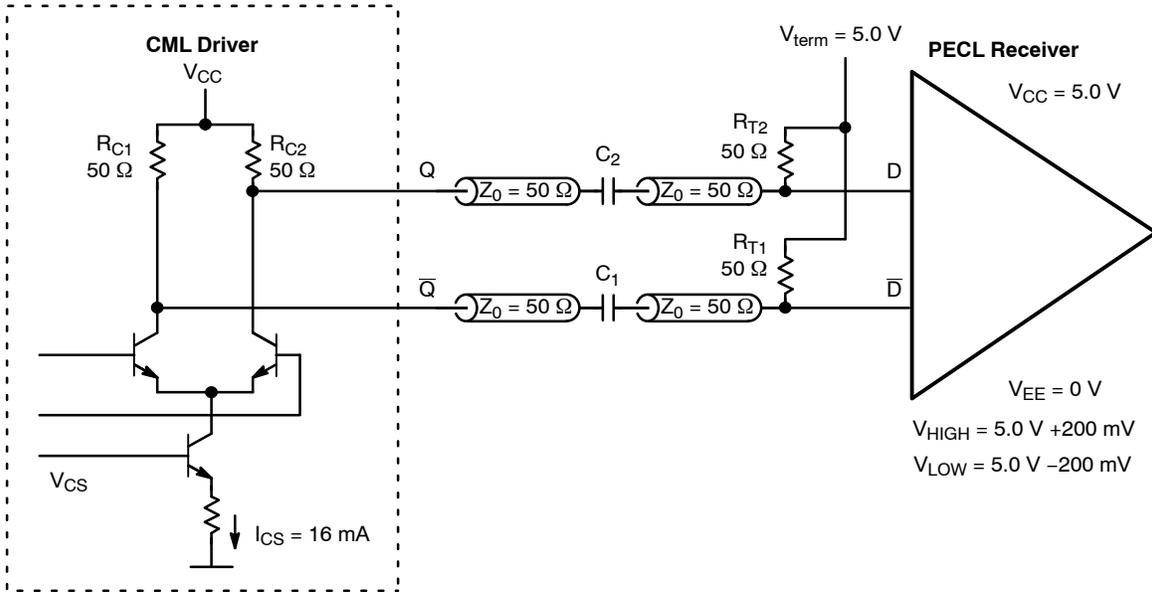

Figure 11. CML to PECL ($V_{CC} = V_{term} = 5.0 \text{ V}$, $V_{EE} = 0 \text{ V}$)
(AC) to ECL type receiver inputs operating with different supply modes such as shown in Figures 11, 12, and 13.